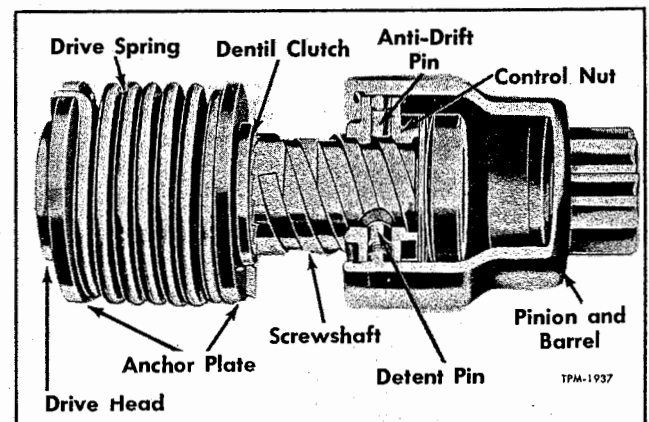
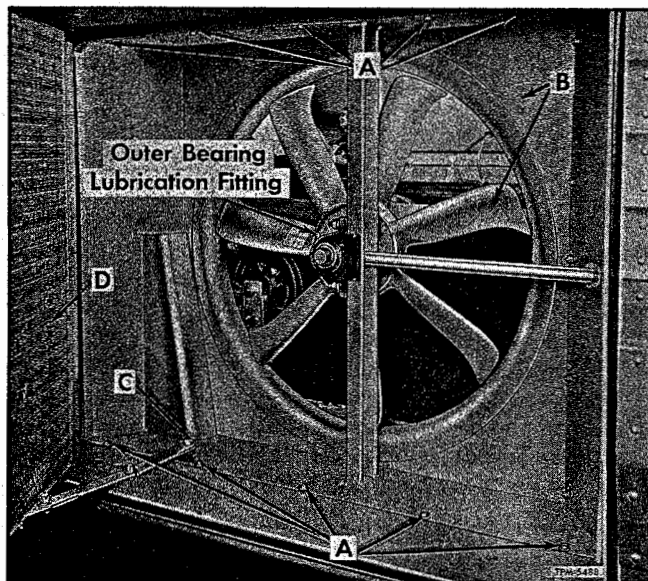

Figure 41—Starting Motor Drive
Figure 42—Condenser Disconnect Points and Fan Outer Bearing Lubrication Fitting
Externally, the "Folo-Thru" drive (fig. 41) is similar in appearance to the conventional barrel type drive, and is installed on armature shaft with Woodruff key and locating screw.
Fan shaft is mounted in two bearings which are equipped with lubrication fitting (figs. 42 and
7. From under vehicle, remove nut, lock washer, and plain washer securing condenser stop link bolt (C - fig. 42) in bracket on compartment side rail. Lift bolt out of bracket and fan shroud, then fold stop link against condenser.
8. Remove bolts attaching condenser hinge to bracket on removable post. Carefully remove condenser assembly (D - fig. 42).
11. Remove bolts (A - fig. 42) attaching fan shroud to compartment side rail and to compartment ceiling, then remove fan and shroud assembly (B - fig. 42).
12. Install fan and shroud assembly (B - fig. 41) in compartment and attach to compartment ceiling and side rail with bolts (A - fig. 42).
16. Connect condenser stop link to bracket on side rail with bolt (C - fig. 42), plain washer, and nut. Swing condenser into place and secure with condenser swing bolts.